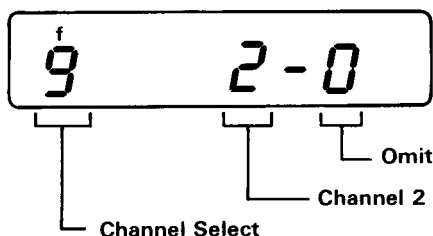

Fig. 7
Use button A to select **f9**. The part of the display normally used for reading values now shows channel number in the middle of the display and selected (1) or omitted (0) to the right. The channel number is increased by pressing button B, and button C is used to select or omit that channel from the recording sequence. Go through the channels one at a time selecting those required for recording. Fig. 7 shows the display with channel 2 set to be omitted. (Note that once a recording run is taking place you cannot alter the selection until the Squirrel is reset. **record** flashes when button C is pressed to indicate this).